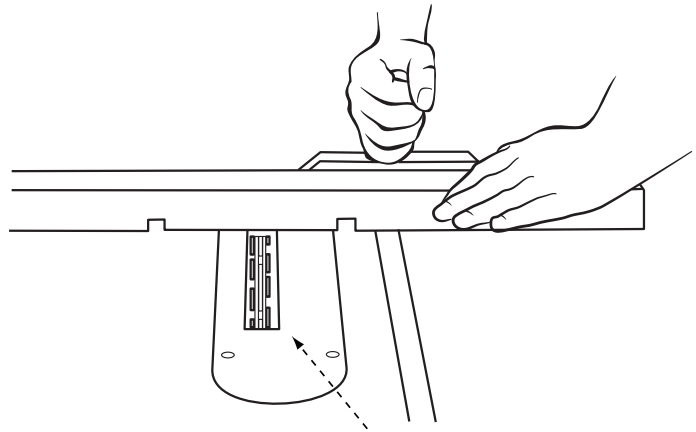

FIGURE 18
- The accessory dado head set throat plate, shown in Figure 18, must be used in place of the standard throat plate. Be sure the throat plate is level to the table before you proceed.